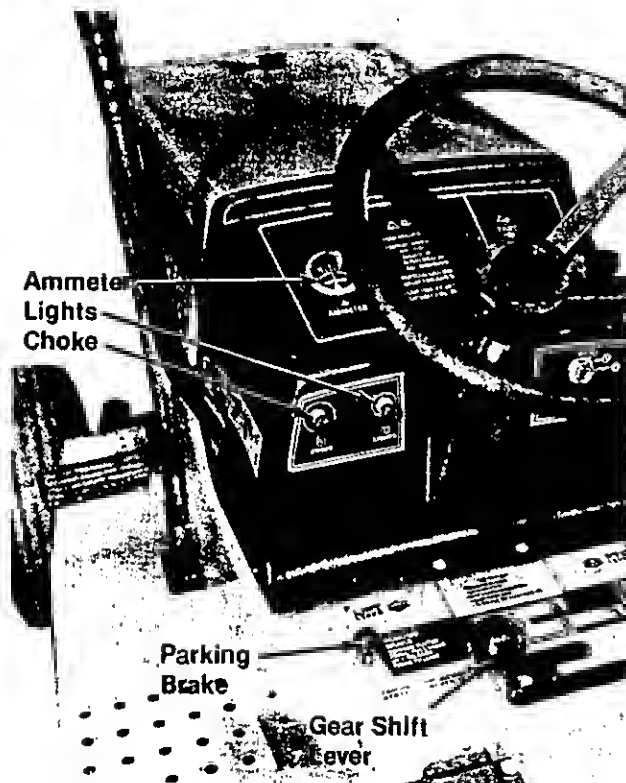

FIGURE 4.
**Ammeter**—The ammeter registers the rate of battery charge. The head lamps operate directly from the engine alternator and the use of the head lamps does not register on the ammeter. The maximum charging rate for the battery is 3 amperes with the engine operating at its maximum speed. (See figure 4.)
**Choke**—The choke control is located on the left side of the dashboard. When starting the engine, pull the choke knob out. After the engine warms up, push the choke knob in gradually until the engine runs smoothly with the choke knob all the way in. A warm engine requires less choking. See figure 4.
**Lights**—The headlamps are operated by pulling out the light switch knob located on the left side of the dashboard. The headlamps will only operate when the engine is running. See figure 4.
**Parking Brake**—To set the parking brake, depress the clutch pedal and pull up the parking brake knob. It will stay in the raised position. To release the parking brake, depress and release the clutch pedal. See figure 4.
**Gear Shift Lever**—The transaxle has four forward gears, neutral and reverse. You do not shift through the gears on the transaxle as you would in an automobile. Pre-select the gear appropriate for the job you are doing. See figure 4.
- D. Pull the choke knob out. See figure 4.
- H. With the clutch pedal still depressed (disengaged), put the gear shift lever in one of the four forward or reverse positions. See figure 4.